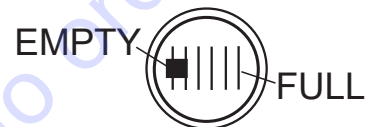

Figure 10. Fuel Gauge
3. Read the fuel gauge located on top of the fuel tank (Figure 10) to determine if the fuel level is low. If fuel is low, replenish with clean unleaded fuel.